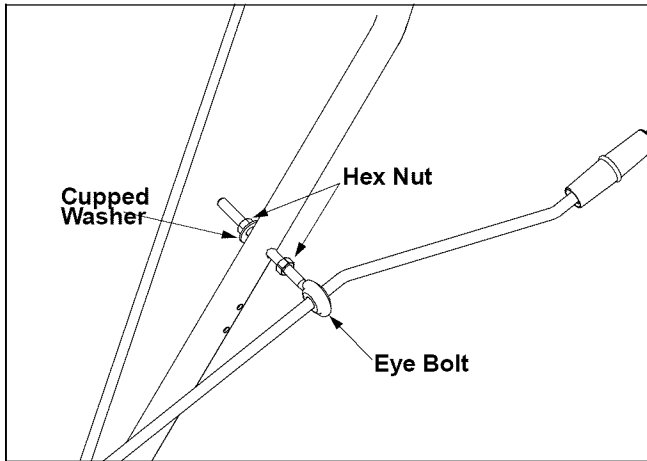

Figure 9
- Insert eye bolt through the hole provided in the left handle. See Figure 9.